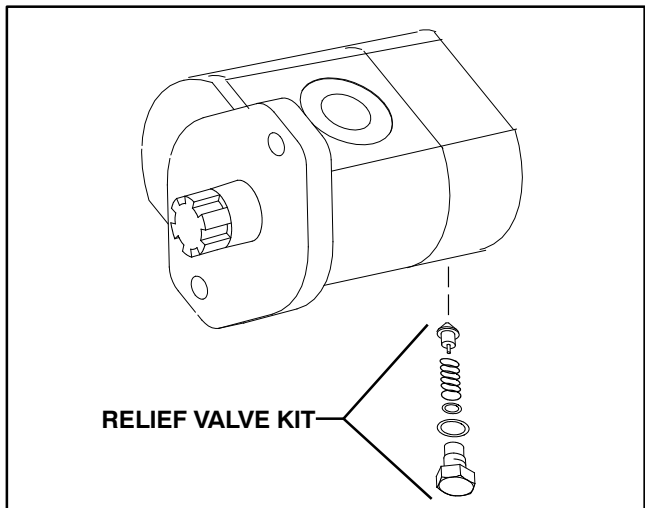

Figure 89
1. When removing or installing the relief valve, motor should be removed from deck and positioned horizontally with the relief valve pointed down (Fig. 89). This process will prevent relief valve from falling into motor passages.